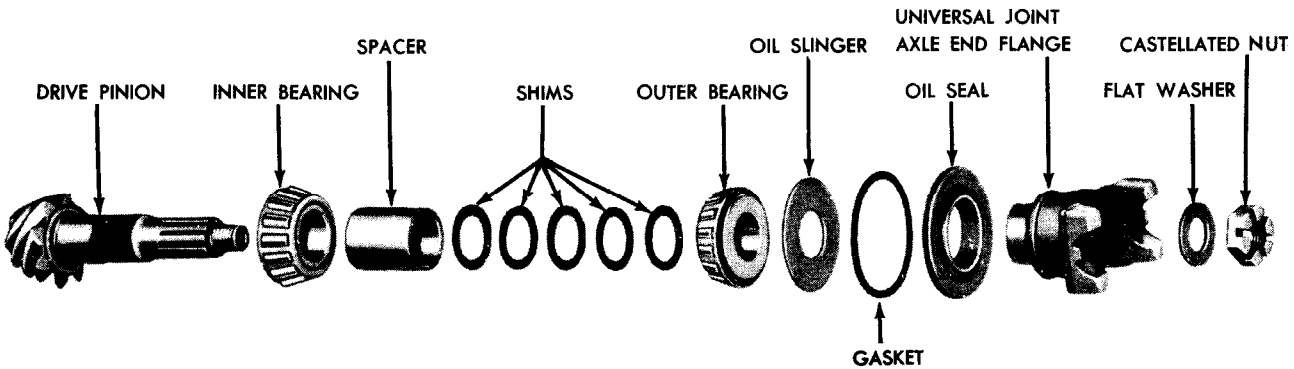

Figure 57 — Drive Pinion Assembly — Exploded View
(2) **DRIVE PINION ASSEMBLY** (fig. 57). Roller bearings that are pitted, corroded or discolored due to overheating must be replaced. Replace the drive pinion if it has worn or broken teeth. The differential ring gear and the drive pinion assembly are furnished only in matched sets and if either is found damaged, both must be replaced. Small nicks can be removed from the pinion gear with a fine stone.
c. **Install Outer Bearing on Pinion** (fig. 57). After the correct pinion setting has been obtained, install the spacer and the original amount of shims on the pinion. If the thickness of the original shims is unknown, install the shims totaling approximately 0.060 inch thick